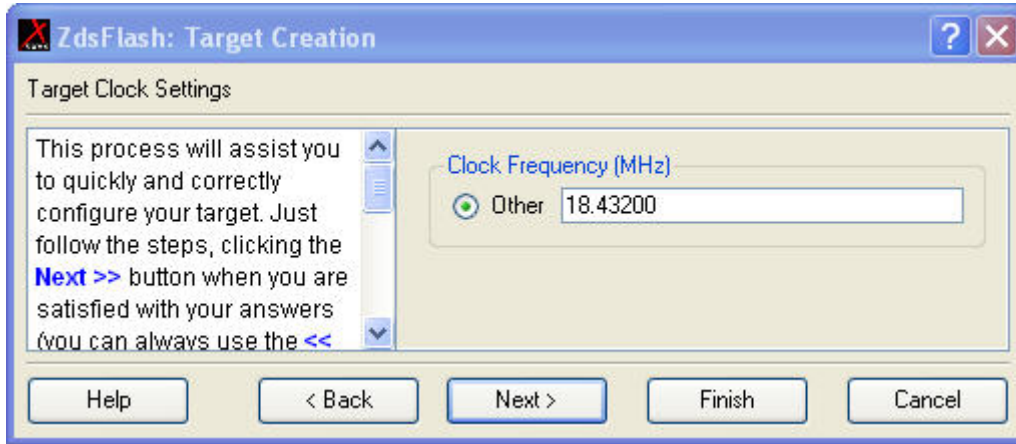

Figure 86. Target Clock Settings Window for Z8 Encore!®
5. The **Target Clock Settings** window is displayed (see Figure 86).
6. In the **Target Clock Settings** window (see Figure 86), the default clock frequency for the selected CPU will be displayed in the **System clock Frequency** text box. You can also enter a new appropriate system clock frequency.